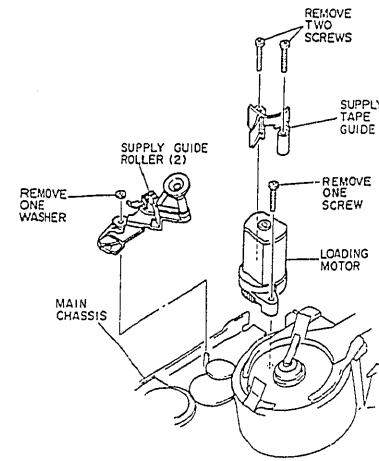

Fig. 2-52
1) Remove one (1) washer holding the supply guide roller (2). (See Fig. 2-52)
2) Remove two (2) screws holding the supply tape guide.
3) Remove the supply guide roller (2) and supply tape guide from the main chassis.
- (2) Loading Motor
4) Remove one (1) screw and remove the loading motor from the main chassis. (See Fig. 2-52)